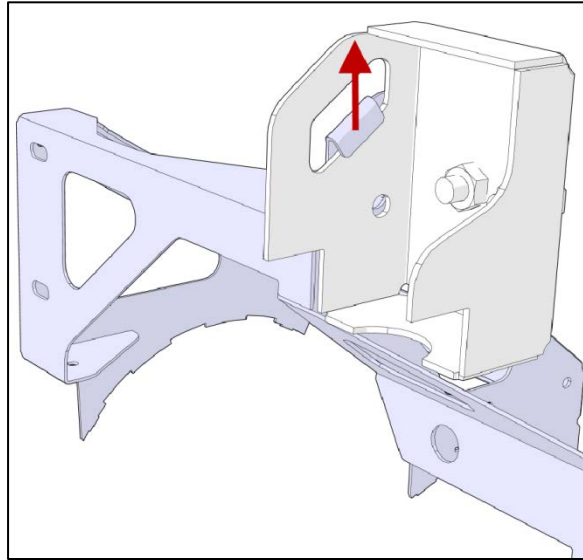

Figure 14
13. Raise the support first to unhook and then remove it (Figure 14).